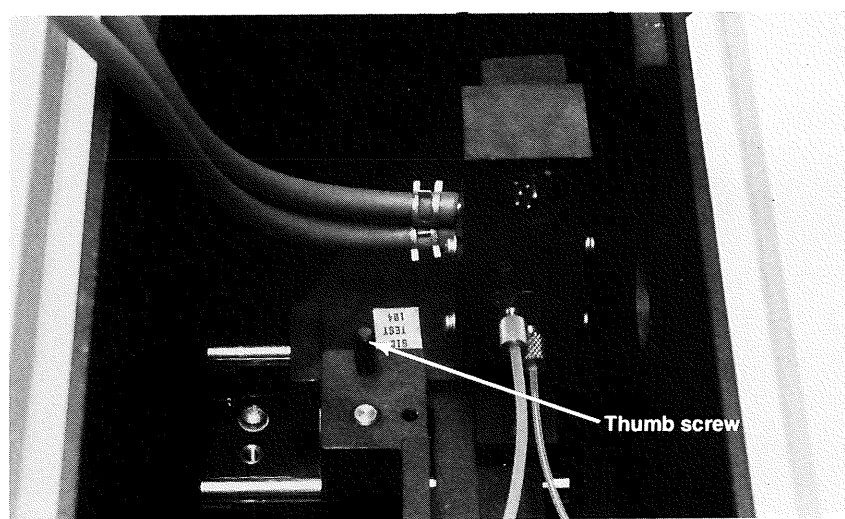

Figure 13.
16. *Peltier flowcell, only.* Seat the flowcell on the rails. Slide it towards the right-hand side of the sample compartment as far as it will go. Tighten the thumb screw. See Figure 13.